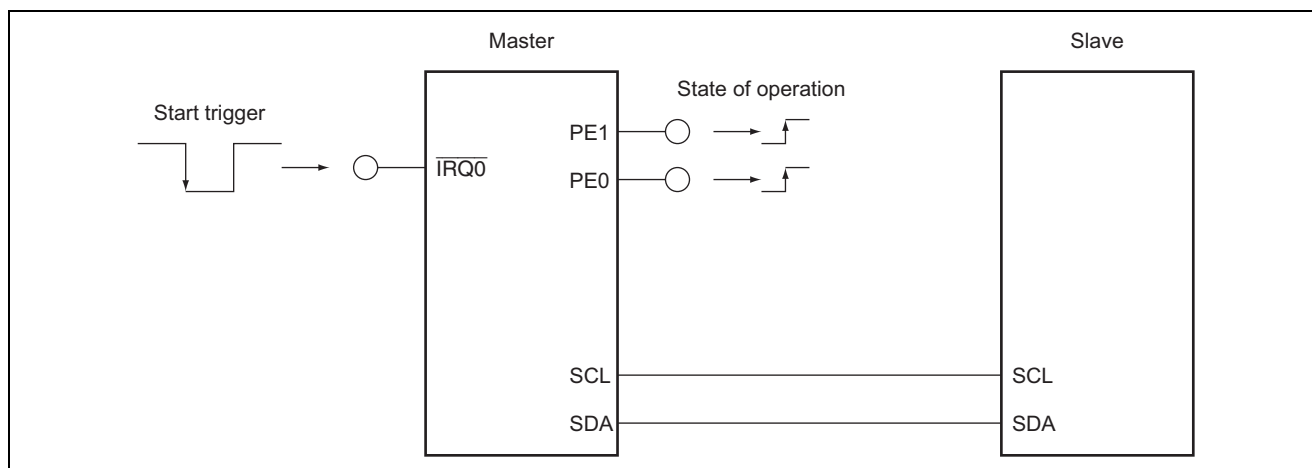

Figure 1 Connections for I²C Bus Interface Single Master Mode Communication
- Figure 1 shows the connections for communications using I²C bus interface in single master mode. The slave addresses and settings for the SAR_0 registers of the individual devices are listed in table 1.